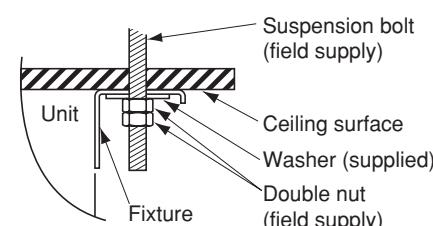

Fig. 3-89a
(6) Carry out the preparation for suspending the indoor unit. The suspension method varies depending on whether there is a suspended ceiling or not. (Figs. 3-89a and 3-89b)
(7) Suspend the indoor unit as follows: